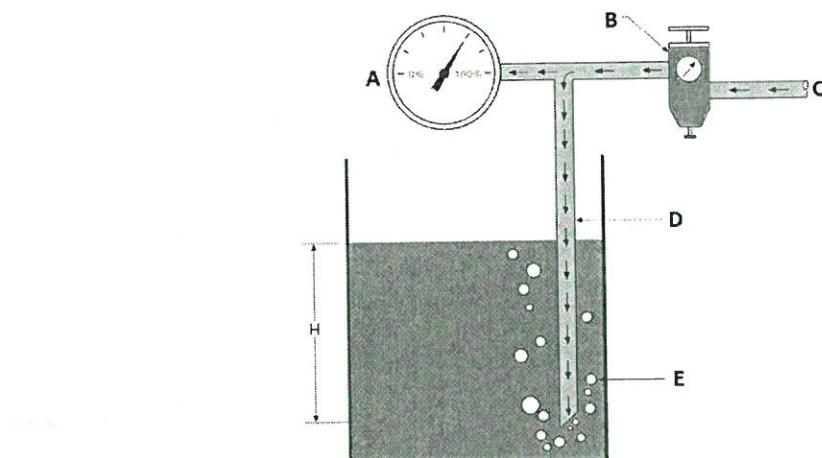

Figure 2(a)
- (a) Label A, B, C D and E elements as in Figure 2(a).